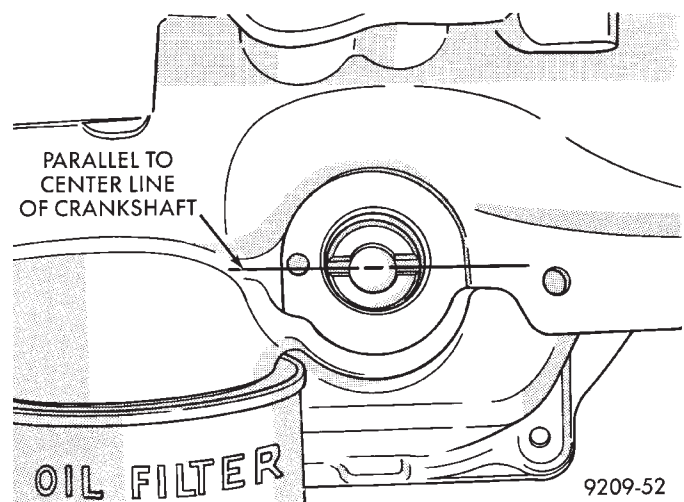

Fig. 7 Oil Pump Shaft Alignment
- (4) Slot in oil pump shaft **must** be parallel to center line of crankshaft when intermediate shaft and crankshaft are properly timed (Fig. 7).